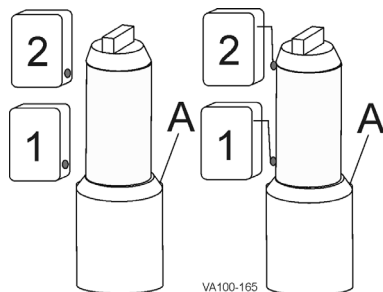

Figure 23 - Valve Closed Adjustment
4. Lower the stem to close the valve and adjust the target of the lower switch to slightly above the stem shoulder (Figure 23). Tighten the cap screws securely.